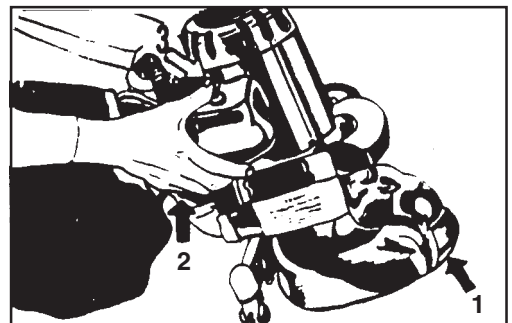

Figure 7
5. Tilt the machine back so that the sandpaper disc does not touch the floor. See (1) in Figure 7. Hold both handles. See (2) in Figure 7.
6. Put the On/Off switch in the "ON" position. See (3) in Figure 7.